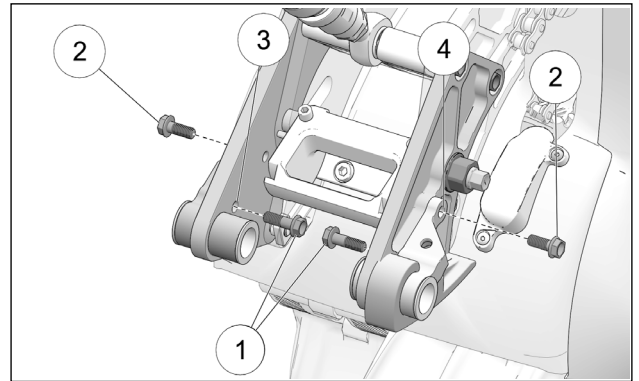

Figure 16
- Secure adapters to Bike Mount with the longer M8x25mm bolts (1) installed inside (3) and the shorter M8x20mm bolts (2) on the outside (4). Tighten bolts to 25 Nm [18 lb-ft]. See Figure 16.